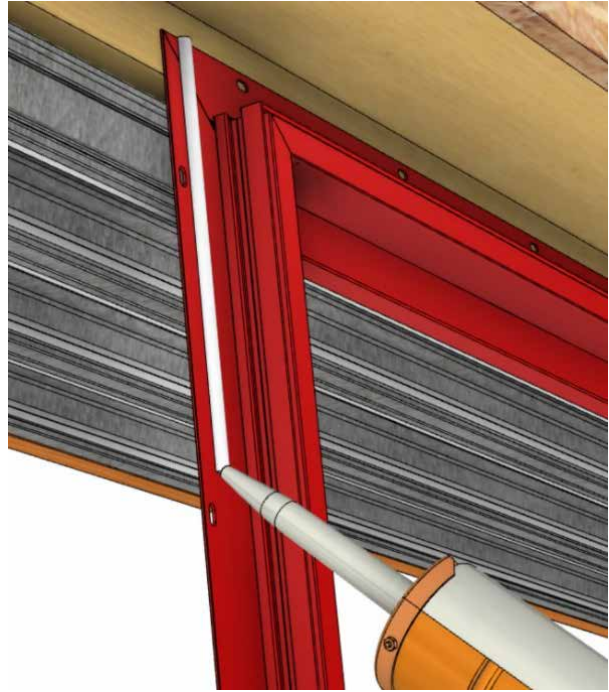

Fig PKT 6
- Apply a continuous bead of silicone to the exterior of the flange on the pocket frame cladding (Fig. PKT 6).